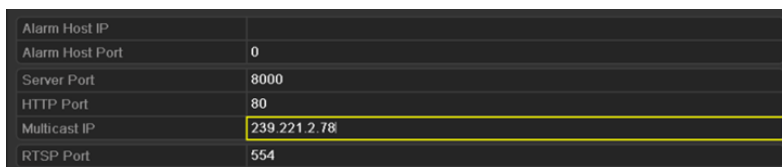

Figure 9. 17 Configure Multicast
2. Select the **More Settings** tab to enter the More Settings interface, as shown in Figure 9. 15.
3. Set **Multicast IP**, as shown in Figure 9. 17. When adding a device to the Network Video Surveillance Software, the multicast address must be the same as the NVR’s multicast IP.